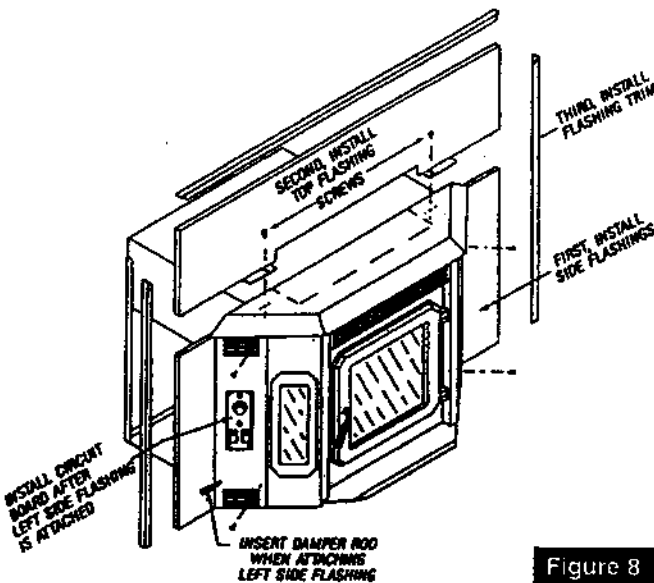

Figure 8
4. Attach flashing (see figure 8), route power cord out the side nearest a 120V receptacle. Slide in insert. Seal is not necessary. Do not restrict air to or from vents in flashing.